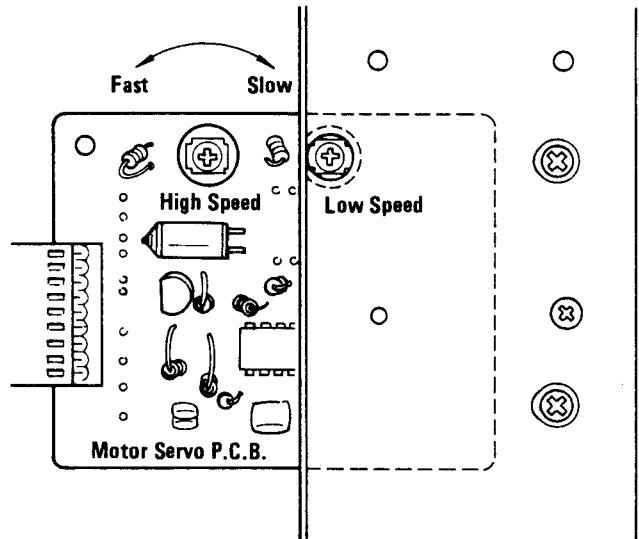

Fig. 2-10
- Play the middle of the test tape and adjust the HIGH speed trimmer resistor until the frequency counter indicates a reading of 3000 Hz ( $\pm 5$  Hz). See Fig. 2-10. (CAUTION: Use an insulated screwdriver to prevent shorting.)